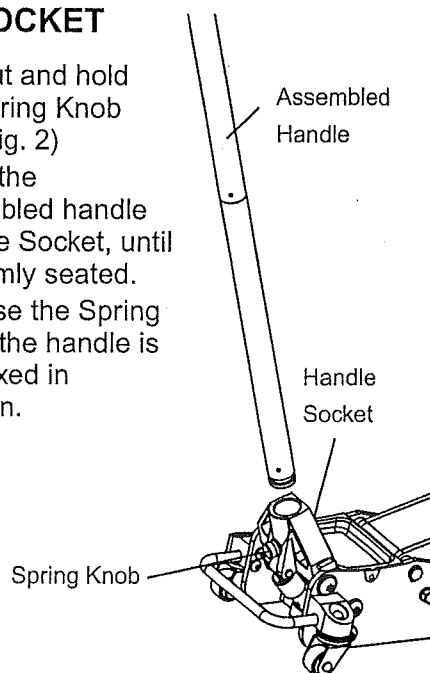

FIG. 2
1. Pull out and hold the Spring Knob (see Fig. 2)